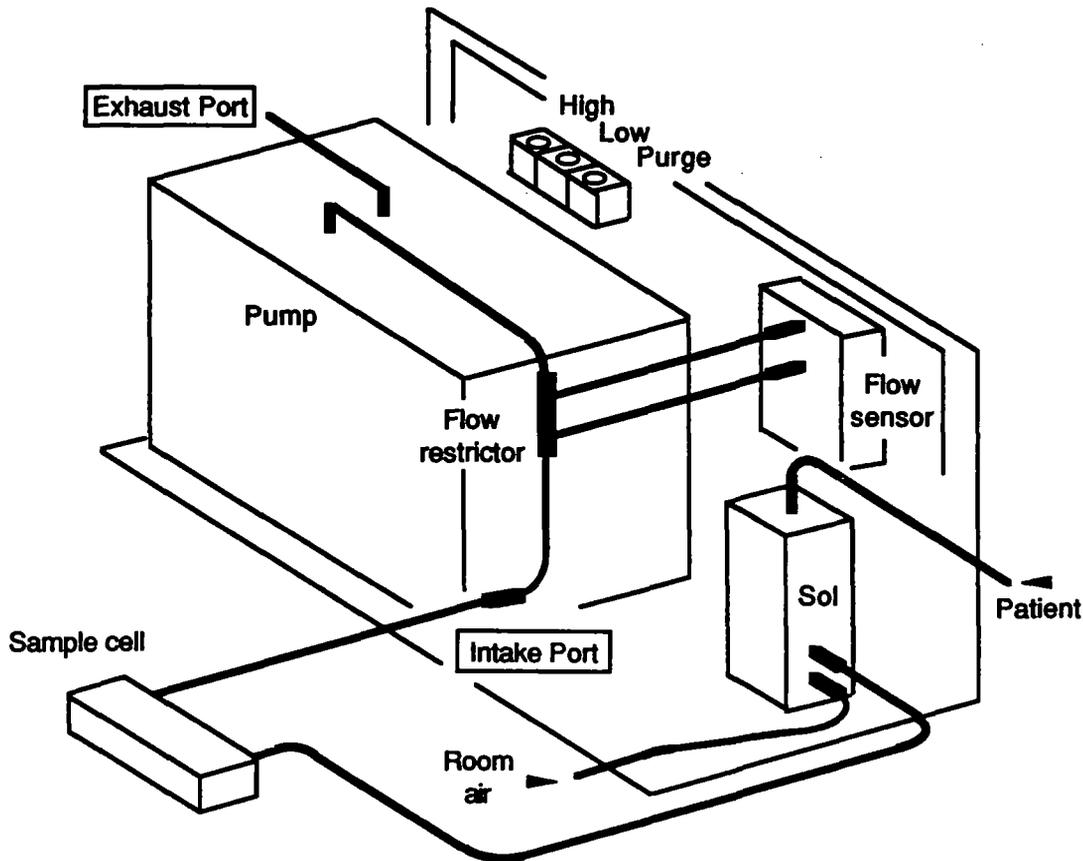

Figure 8-2. Front View, Simplified
**Pneumatics:** Pneumatic lines to the 1401 are connected as shown in Figure 8-2 and include the following:
The 1401 maintains the desired flow rate until pressure at the intake port drops 6 inches of Mercury below that of the exhaust port. This assumes that the exhaust port is at or near ambient pressure. The location of these ports is identified in Figure 8-2. If the pressure difference exceeds 6 inches of Mercury the 1401 asserts the Occluded signal.
As shipped, the 1401 is calibrated for 350, 200, and 65 ml/min flow rate using air at sea level. These flow rates may be adjusted by the user by adjusting the potentiometers shown in Figure 8-2. Note that the upper flow rate may be increased substantially if desired; however, power dissipation in this mode also increases due to the additional pump load.